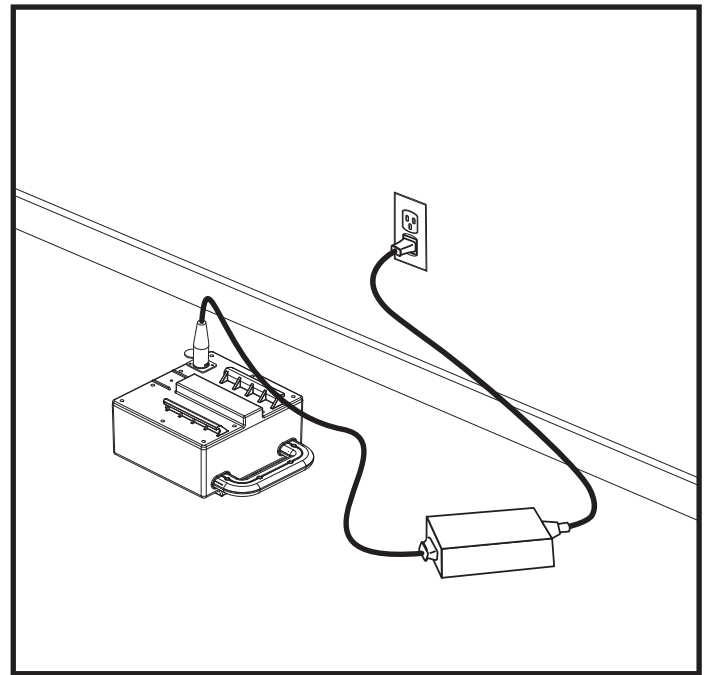

Figure 14. Battery Charging with the Battery Box
3. Plug the off-board charger into the battery box charger port. See figure 14.